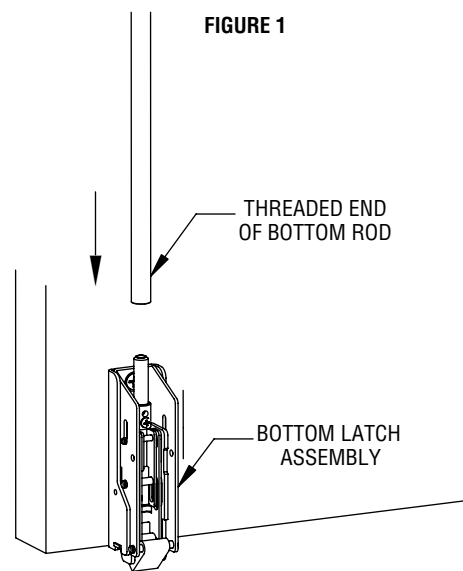

FIGURE 2
- B. Screw threaded end of bottom rod halfway onto bottom latch assembly (See Figure 2).